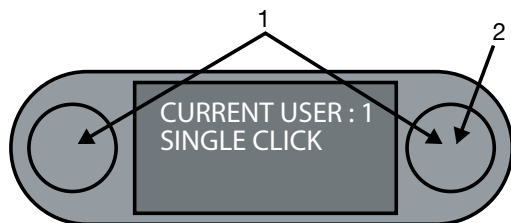

Figure 1
1. Press and hold both buttons (Fig.1) after cycling to correct display. (See Table 3)
2. Cycle through menu with right button (Fig.1).